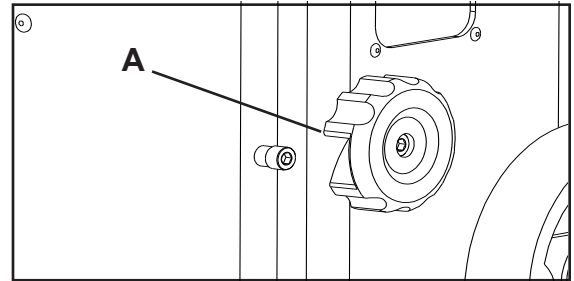

Figure 16
- a) Open the top and bottom wheel doors by turning the door locking knobs. (A-Fig.16)